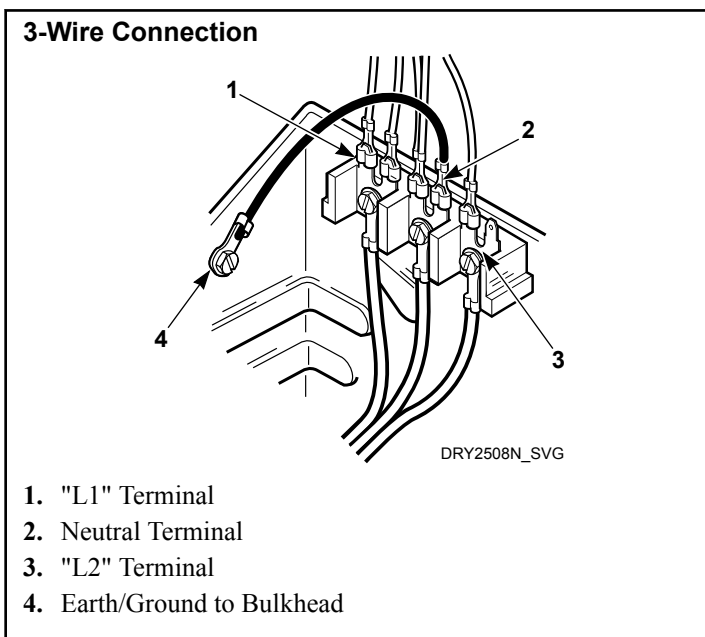

Figure 15
4. Use the three screws from the accessories bag to attach the power cord wires to the terminal block. Refer to *Figure 15*.